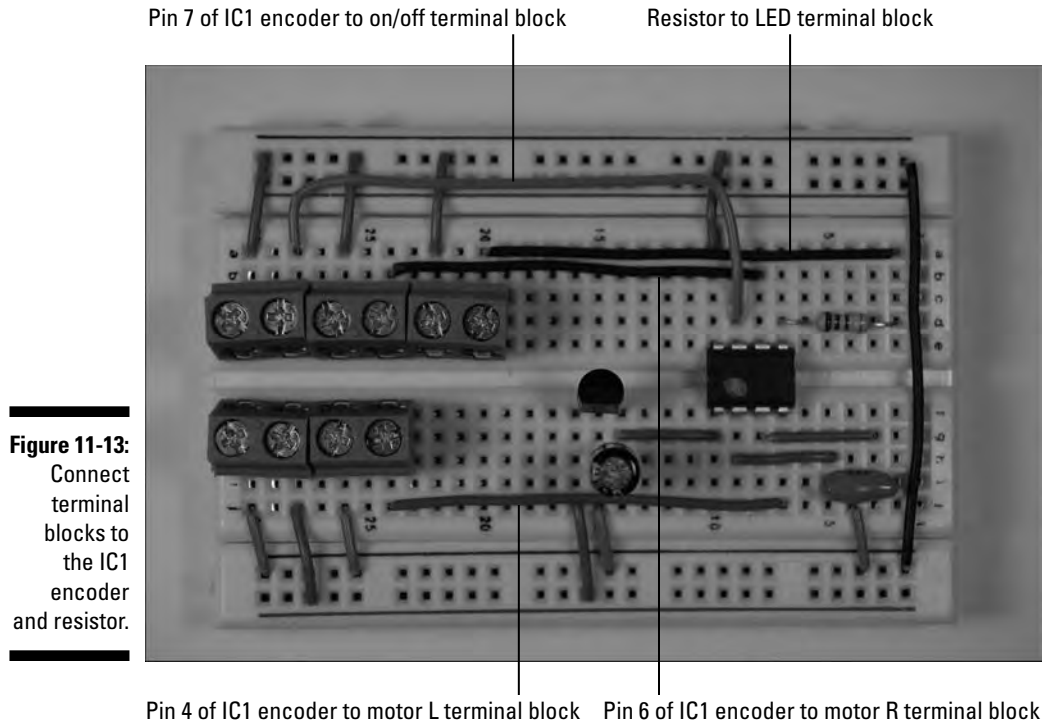

Figure 11-13:
6. Insert wires to connect the terminal blocks to the IC1 encoder and resistor, as shown in Figure 11-13.